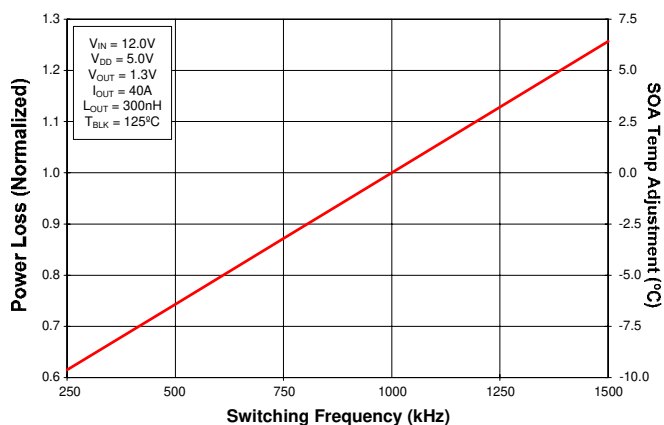

Figure 6 Normalized Power Loss vs. Switching Frequency
| (Figure 6) | Normalized power loss for switch frequency $\approx 0.87$ |
- (Figure 6) SOA temperature adjustment for switch frequency  $\approx -3.5^{\circ}\text{C}$